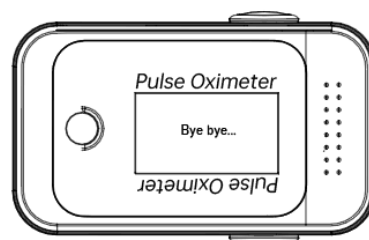

Figure 10
- The product will automatically be powered off when the finger isn't in the device for more than 10 seconds. (as shown in **Figure 10**)